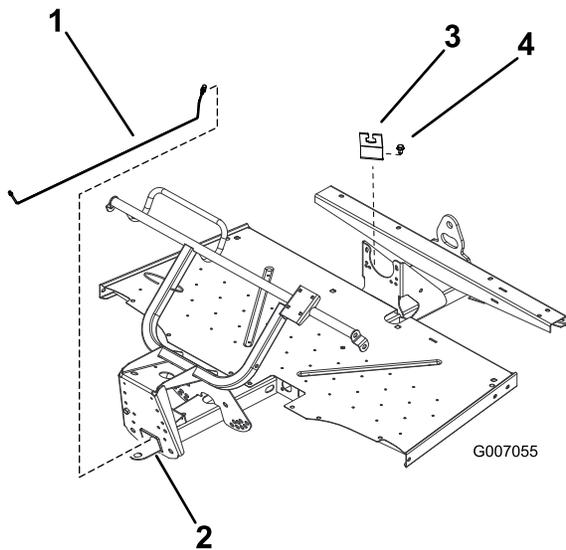

Figure 13
- 5. Install the center brake line (104-6794) by inserting the end into the channel above the front hitch (Figure 13). Keep the tubing to the left side (when looking at the front of machine) as it is slid in.
- 8. In the center channel at the mid point of the vehicle, install a brake hose bracket (104-6799) with a screw (1/4 x 1/2 inch) to support the tubing (Figure 13).